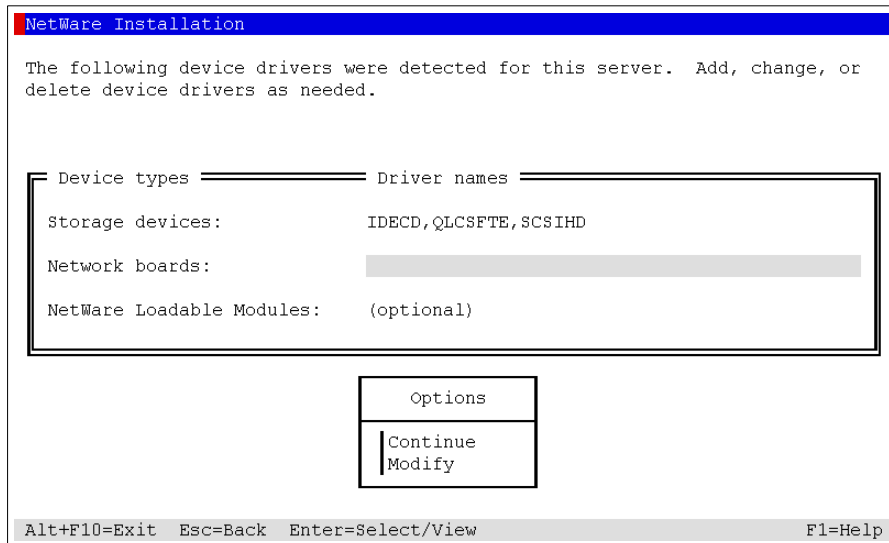

Figure 4-10 Network board installation instruction
3. Follow the NetWare installer screen instructions up to the device driver screen, shown in Figure 4-10 on page 123. The NetWare installer cannot detect the Broadcom Gigabit controller.